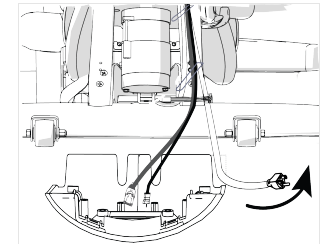

Figure 11
5. For all consoles - Attach the lower panel using two screws **2**, and route the power cable through the slot (Figure 12). Fully tighten fasteners on the panel (see arrow in Figure 11).